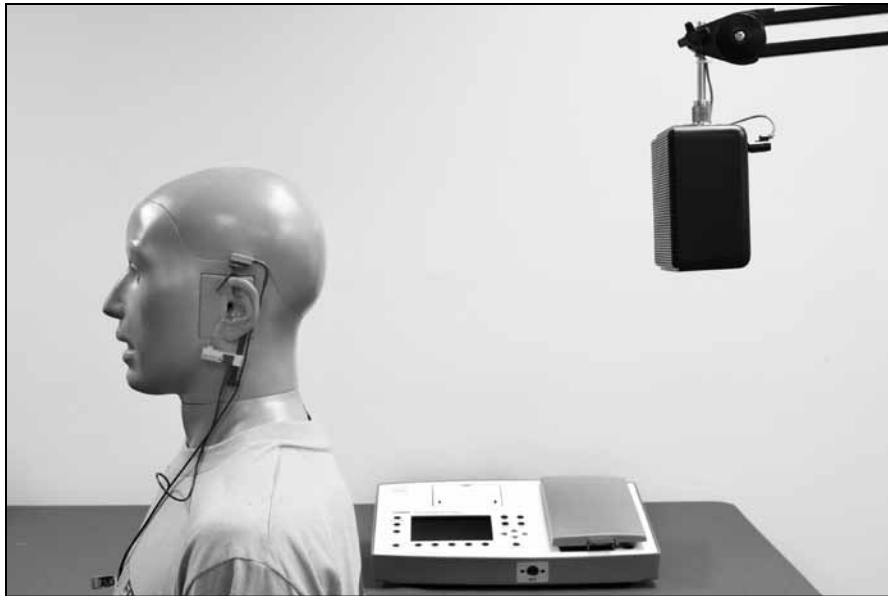

Figure 4.4.5A—"Reverse" directional aid setup
8. Turn your client around so that the back of his head is facing the speaker. See Figure 4.4.5A. Alternately, if you are using an external speaker on a swing arm, you can swing the speaker around the client.